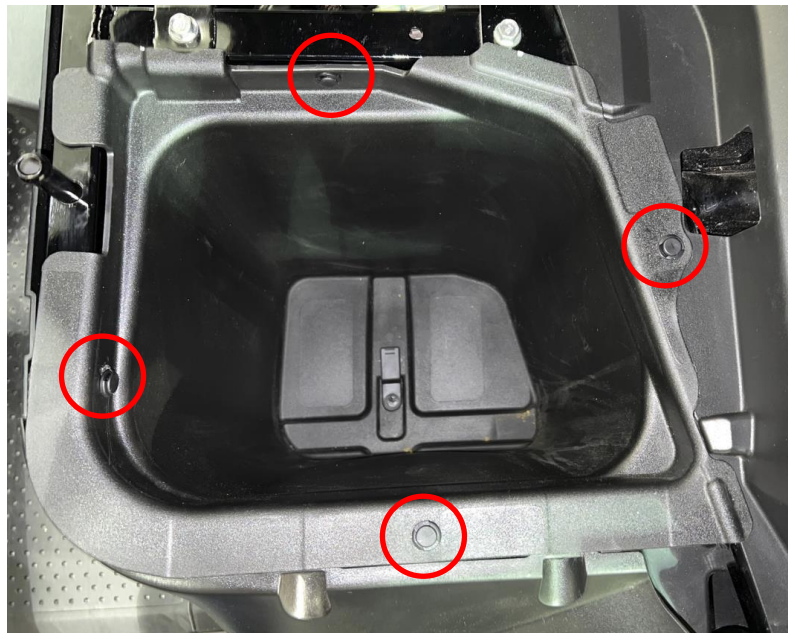

Figure 9: Remove the driver's seat tub.
7. Remove the plastic tub from under the driver's side seat. The tub is held in place with 4 plastic rivets. Pry the raised center of the plastic rivet out first, then pry the outside of the rivet. Save the rivets for installation later. See Figure 9.